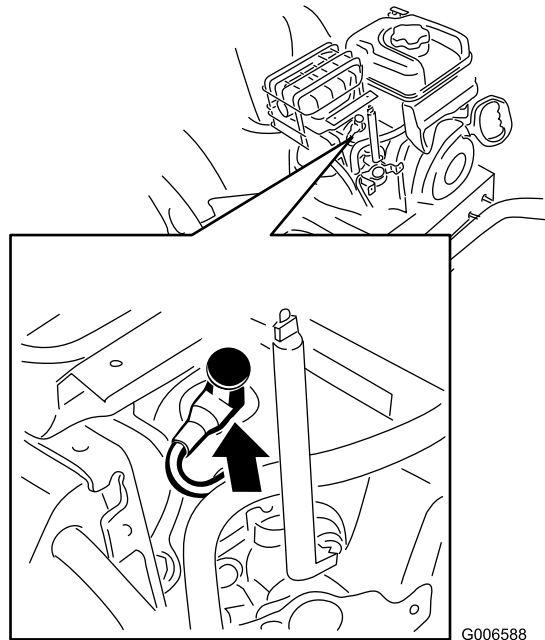

Figure 44
4. Clean around the base of the spark plug (Figure 44).